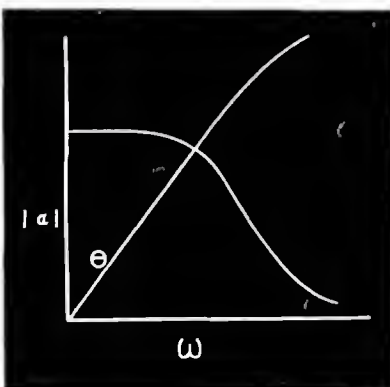

Figure 4
The first form is in complex notation, Eq. (5), and the second in the equivalent trigonometric notation, namely, an amplitude at an angle (given by its arctangent), while the third form expresses more generally the fact that the gain may be represented by a magnitude which is a function of the angular frequency  $\omega$ , at an angle which is also a function of  $\omega$ . The two components of the gain are plotted independently in Figure 4. It is evident that the amplitude of the gain drops off with increase in  $\omega$  and approaches zero asymptotically while the phase shift is not linear with frequency except approximately for a short distance from zero frequency. Reference to Eq. (5) indicates that if we wish this amplifier to be approximately flat to a high value of  $\omega$  it is necessary that  $C_i R$  be correspondingly small in order that the product  $\omega^2 C_i^2 R^2$  be small compared to unity. For a given value of  $C_i$  determined by the shape of tube and circuit layout, such flatness of gain and also linearity of phase shift can be achieved only by the use of a small load resistance  $R_L$ , which in turn means that the magnitude of the gain will be small. Thus, so-called video amplifiers that are to be flat to 100,000 cycles or more, often